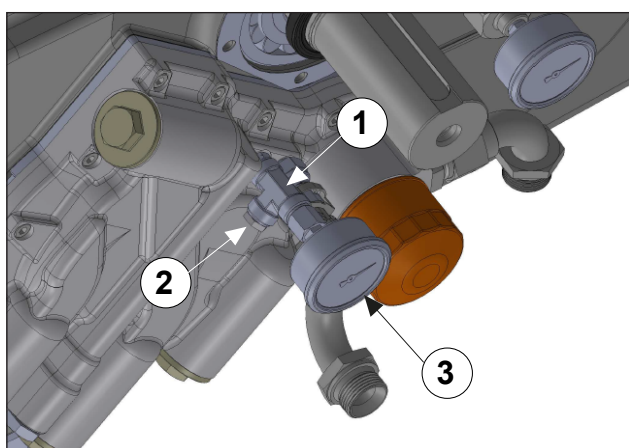

Fig. 134
Fit the oil temperature probe (pos. ①, Fig. 134).